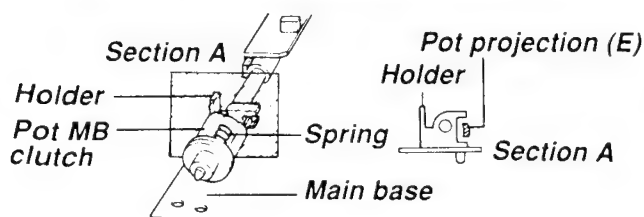

Fig. 4-6-2 Position of pot MB clutch
- Insert the projection (G) of the drive shaft assembly into the hole (G') on the main base and energize the worm section in the direction of the arrow (F). (The worm section should not engage the gear (H).)
- As shown in Fig. 4-6-2, place the pot MB clutch with its projection (E) facing to the inside of the main base and the groove section facing upward. (At this time, the spring can be watched from the upper side).